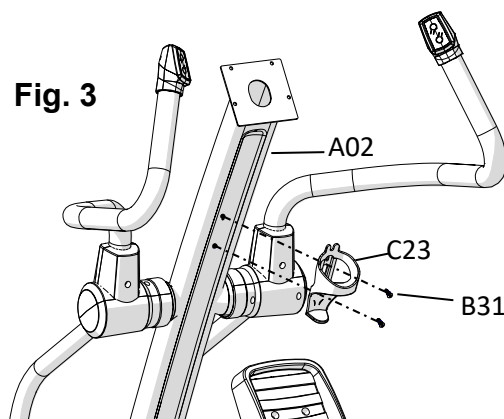

Fig. 3
10.1 Refer to Fig. 3. Remove **Two** M5 Screws (B31) from the Upright Post (A02).